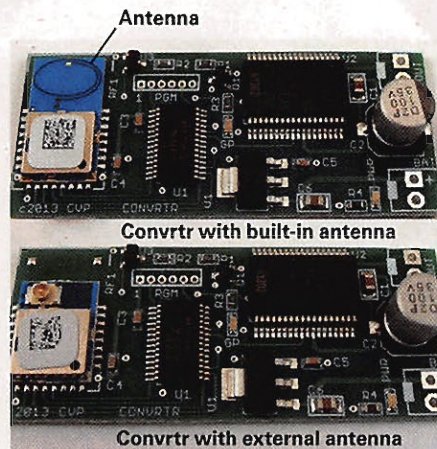

Fig. 8 CVP components. The CVP Products Convtr allows modelers in the smaller scales to use the company's AirWire system developed for outdoor G gauge layouts.
Another component available to set up small scale locomotives for DCC and battery power operation is the CVP Products Convtr, shown in **fig. 8**. It's CVP's AirWire technology for controlling large scale garden railway equipment put into a smaller package. The Convtr is a 0.3 x 0.8 x 2-inch printed-circuit (PC) board wired in series between a decoder and battery. It serves as a radio receiver for the commands from CVP's T5000 wireless throttles.